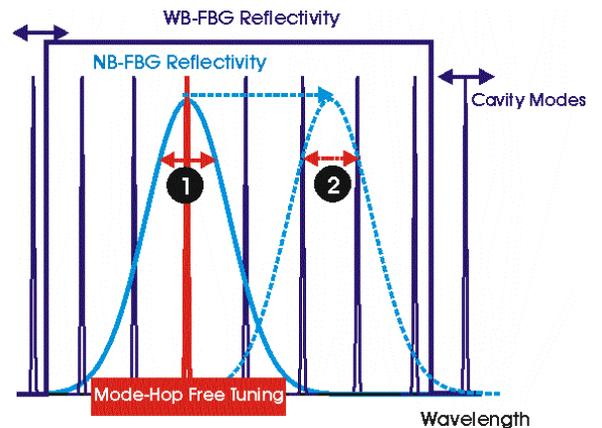
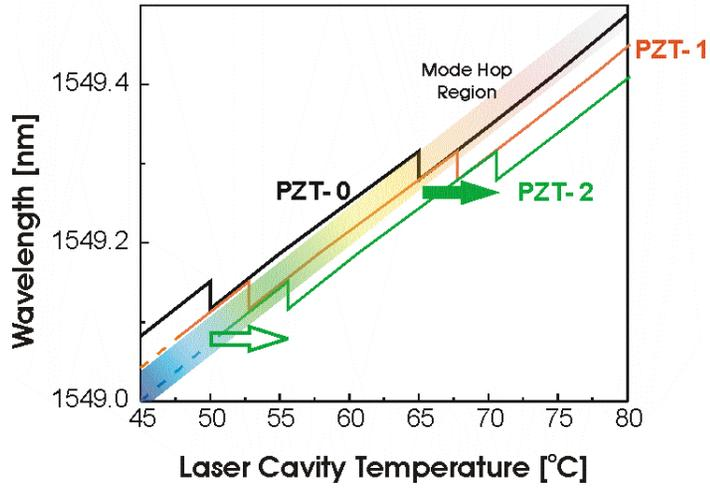

Figure 3.1 Wavelength Tuning
Figure 3.3 Example of Tuning Curves
- Figure 3.1 Wavelength Tuning 9
- Figure 3.3 Example of Tuning Curves 10
The effective total cavity has a length of ~ 4 cm and a free spectral range on the order of 2.5 GHz. When the laser temperature is changed, the mode selector and the cavity modes are tuned together and the laser wavelength changes within about 1 GHz/K. However, due to slightly different expansion coefficients of the fibers used in the Rock laser, the longitudinal modes will move somewhat less than the center wavelength of the NB grating and eventually a situation occurs where 2 longitudinal modes experience the same output coupler reflectivity. This is illustrated as situation in Figure 3.1. and typically occurs less than 3 times over the whole thermal tuning range. Figure 3.3 shows the laser frequency as a function of the laser temperature. Two mode hop regions are observed over a thermal tuning range of more than 30 °C or > 0.3 nm. These regions
are very narrow ($< 0.1\text{ }^{\circ}\text{C}$) and can automatically be avoided by internally applying a DC voltage to the piezoelectric actuator. This is schematically illustrated in Figure 3.3.